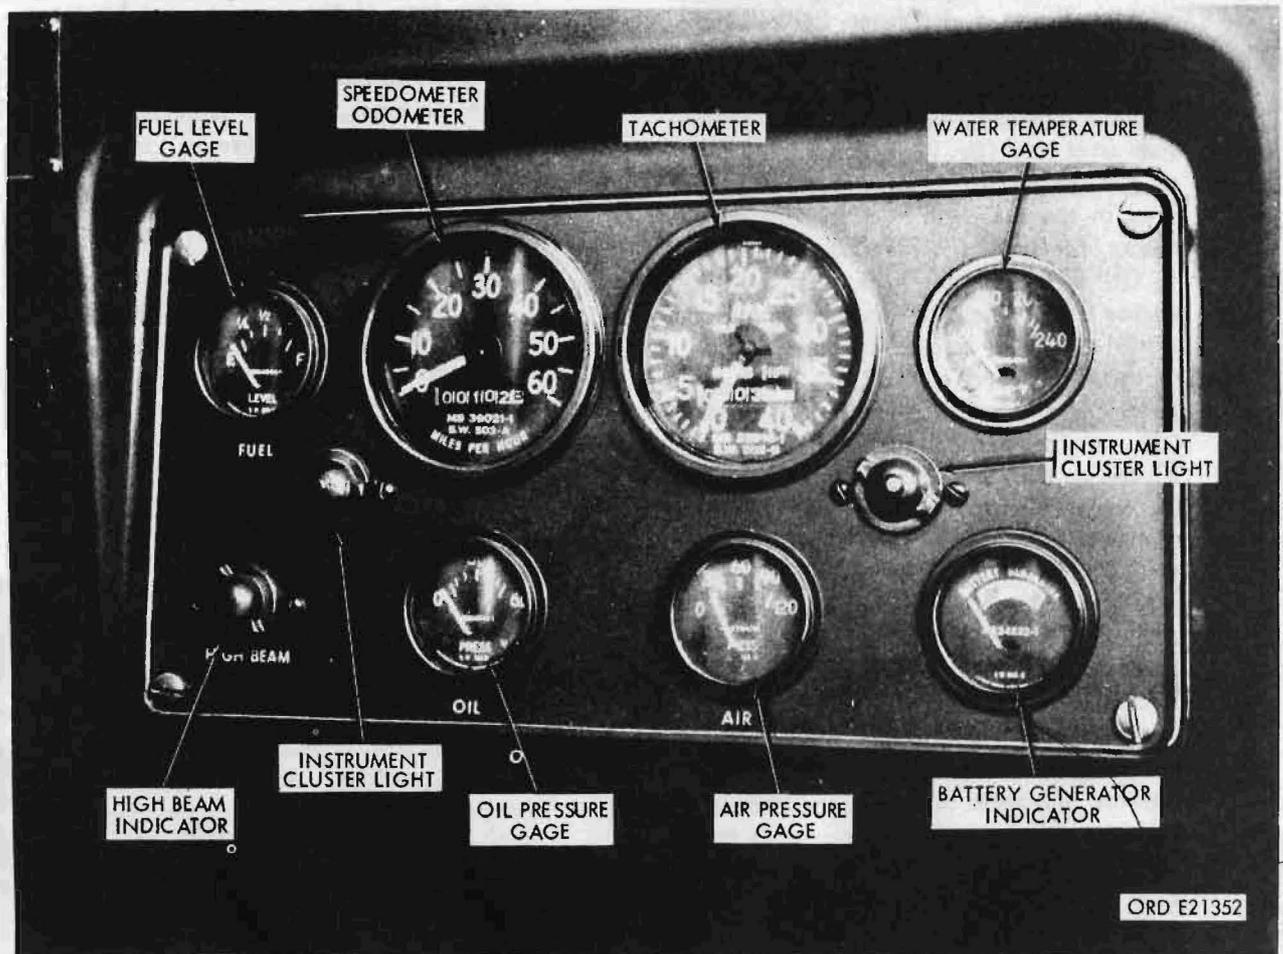

Figure 98. Instrument panel — multifuel engine vehicle.
- (1) *Speedometer, odometer (fig. 98).* The speedometer, odometer, located on the instrument cluster, indicate the vehicle road speed in miles per hour and record total mileage.
- (2) *Tachometer (multifuel engine vehicles only) (fig. 98).* The tachometer, located on the instrument cluster of all late production model multifuel engine vehicles, indicates the engine speed of the truck in revolutions per minute.
- (4) *Battery-generator indicator (fig. 98)*. The battery-generator indicator, located on the instrument cluster of later production gasoline model trucks and all multifuel models, is marked BATT GEN INDICATOR on the gage face. This gage indicates the charging activity of the charging system. The gage should indicate GENERATOR (pointer in green arc) when the engine is first started, and continue to indicate charging activity as the engine speed is increased, depending on the amount of electrical power being used. When the battery is supplying normal current to electrical units, the pointer should indicate BATTERY (yellow arc). An abnormal discharge reading (pointer in BATTERY red arc), with the engine running at normal speed indicates a deficiency in the charging system. Failure to indicate a charge reading while using all lights may also indicate a deficiency in the charging system.
- (5) *Fuel level gage (fig. 98)*. This gage, located on the instrument cluster, indicates the fuel level in the fuel tank. On gasoline engine trucks, the ignition switch must be turned to ON to actuate the gage. On multifuel engine trucks, the accessory switch must be turned to ON to actuate the gage.
- (6) *Oil pressure gage (fig. 98)*. This gage, located on the instrument cluster, is marked OIL on the panel under the gage, and PRESS on the gage face. The gage indicates the engine oil pressure when the engine is running. When the engine is started cold, the oil pressure may rise sharply, then recede to normal after the engine is warmed up. When the engine is idling, the pressure gage should indicate approximately 15 psi. With the engine operating at road speeds, the pressure should indicate 45 to 50 psi on the gage. The absence of, or low oil pressure indication during engine operation, indicates a faulty oiling system or an inoperative gage circuit. When the oil pressure gage indicates zero or low oil pressure while the engine is running, the engine should be stopped immediately and the cause of the low indication determined.
- (8) *Air pressure gage (fig. 98)*. This gage, located on the instrument cluster, is marked AIR on the panel under the gage, and PRESS on the gage face. Some air pressure gages are electrical and are actuated by turning on the ignition switch (accessory switch for multifuel engine vehicles). The other type of air pressure gage is air-type which shows the existing air pressure at all times. The purpose of the gage is to indicate the amount of air pressure in the air reservoirs. Full pressure in the system is 100 to 105 psi. With the engine running, the air compressor governor cuts in at approximately 85 psi and builds the pressure up to 100 to 105 psi. The vehicle should not be moved until the air pressure is up to 85 psi. Trucks are equipped with a low air pressure warning buzzer which operates until air pressure is above 65 psi. If during vehicle operation, the low air pressure warning buzzer sounds, the vehicle should be stopped and the cause of the air leakage corrected.
- (7) Check the instrument cluster. The oil pressure gage (fig. 98) should read above 15 psi. The battery-generator indicator (fig. 98) should read in the green area.
- (8) Check the air pressure. The air-pressure gage (fig. 98) should read above 65 psi.